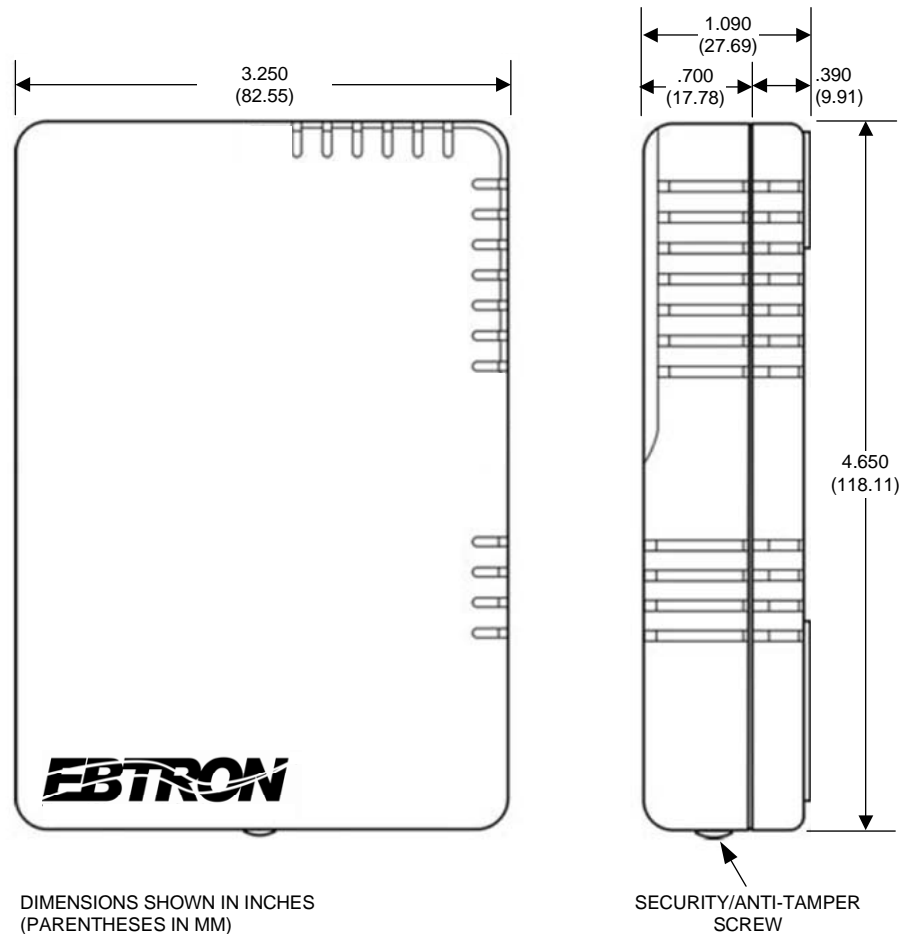
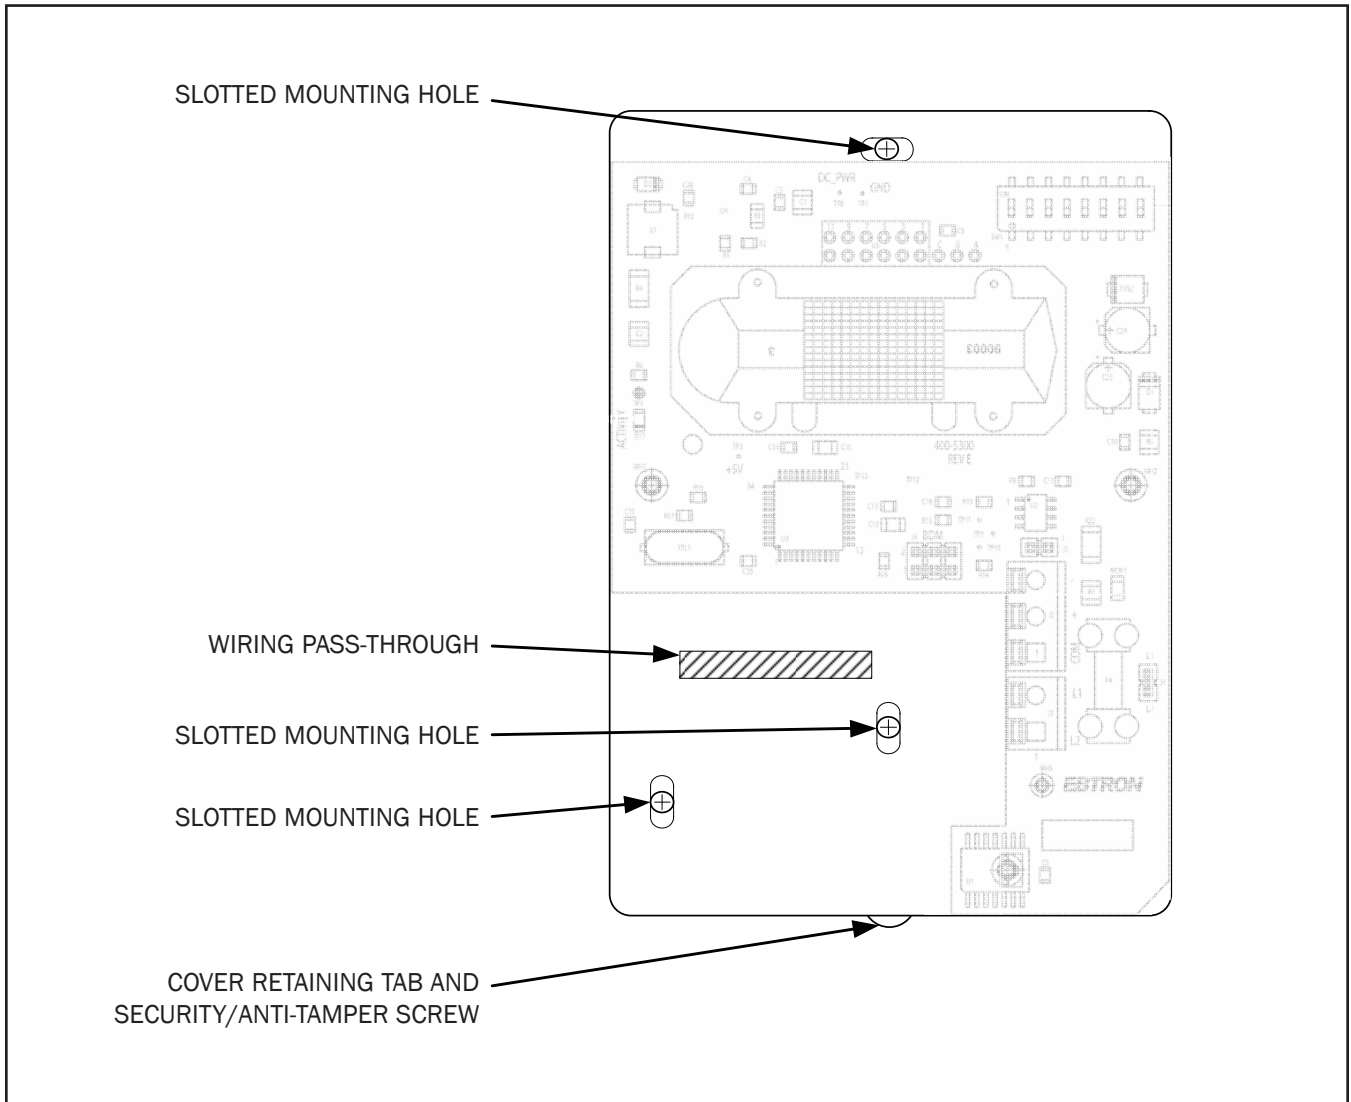

Figure 2. Tri-Stat Outline Dimensions
Figure 3. Marking Locations for Installation
Figure 2 details the mechanical outline dimensions of the Tri-Stat. The Tri-Stat sensor location selected is important to ensure accurate readings that are representative of the area to be monitored. Preferred mounting locations are:
Read and understand all installation instructions prior to installing the Tri-Stat. The Tri-Stat is designed for surface mount or installation, or for installation onto a standard (field supplied) single gang electrical junction box. Installation and wiring of the Tri-Stat must be accomplished in accordance with all local electrical and mechanical codes to ensure safety and compliance. Refer to Figure 2 for Tri-Stat outline dimensions, and Figure 3 for mounting hole locations.
5. Using the Tri-Stat base as a template, mark the location for the wiring pass-through slot and for the mounting screws as shown in Figure 3. For mounting directly to a single-gang electrical junction box, proceed to step 8.